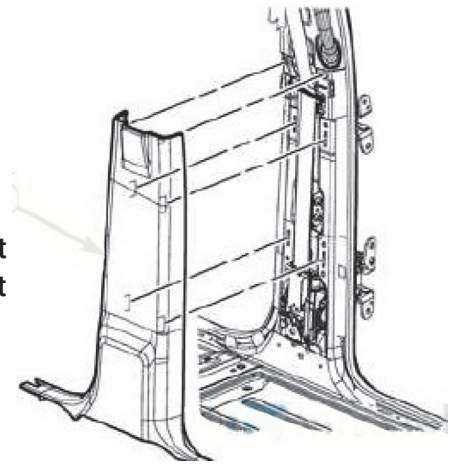

Fig. 1
- A. Locate and remove the lower part of the B-pillar trim to access the sheet metal body (Fig. 1).